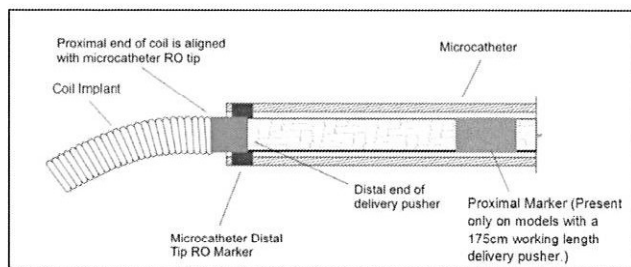

Figure 4 – Position of Marker Bands for Detachment
29. Advance the coil into the desired site until the radiopaque marker on the delivery pusher is aligned or slightly distal of microcatheter distal tip RO marker, positioning the detachment zone just outside the microcatheter tip. See Figure 4.